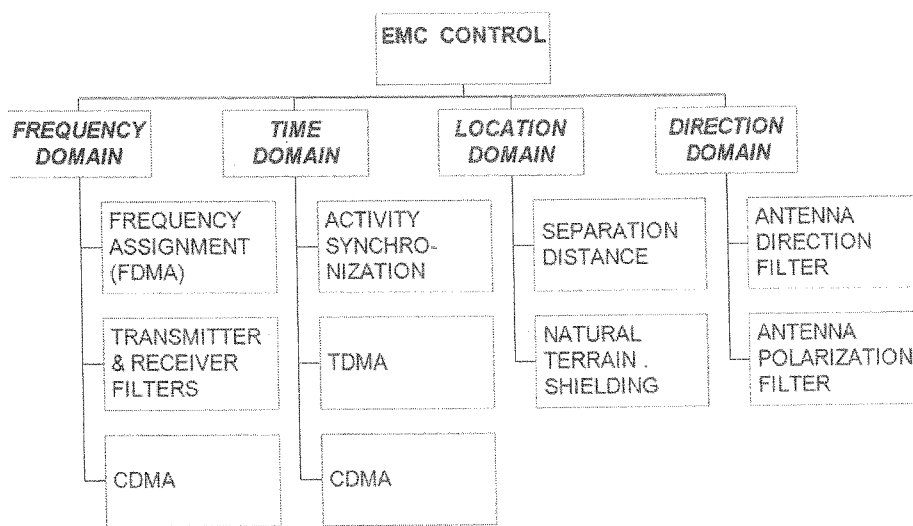

Figure Q5
- e) Selecting appropriate examples, describe how do you find solution to improve electromagnetic compatibility by using given chart in figure Q5 [2 Marks]